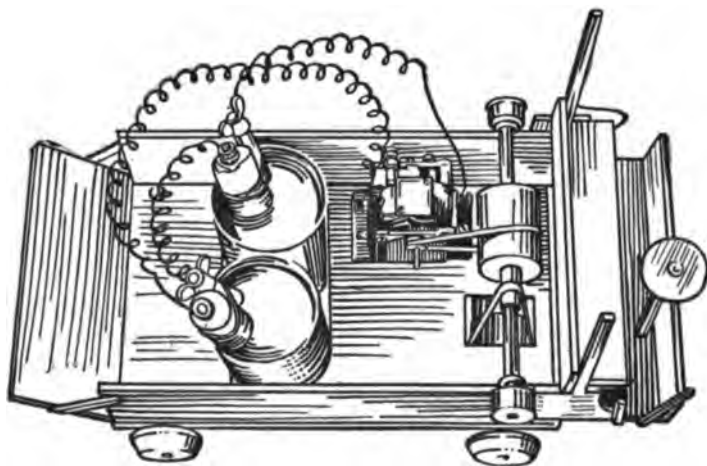

FIG. 200. — Top view of Electric Motor Truck.
ings should be screwed into the top edge of the sides of the box (Fig. 200), directly over the front axle. Slip a silk-spool on to each end of this shaft to keep its ends from slipping out of the screw-eyes.
**The Belts.** As you will see by Figs. 200 to 202,
Figure 200 shows how the battery cells are connected. A small switch can be fastened to the side of the truck to shut off and turn on the current, but, instead, you can simply withdraw one pair of elements from its tumbler to